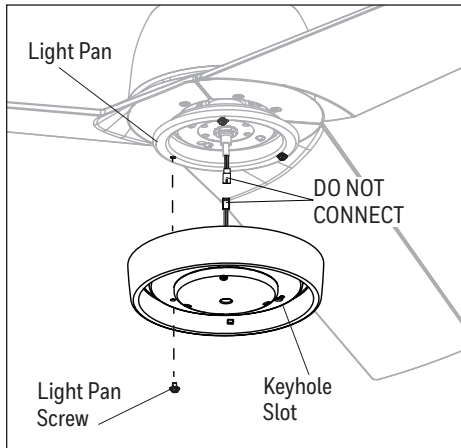

Figure 6.1
1. **TO INSTALL FAN WITHOUT LIGHT KIT**, remove one of the three light pan screws from the light pan and loosen the other two but do not remove. Lift the two keyhole slots in the light kit over the two loosened light pan screws and turn in a clockwise direction. Then, use the previously removed light pan screw to secure the light kit to the light pan. Tighten all screws. Note: Do not connect the 3-pin connectors from fan to light kit (Figure 6.1).